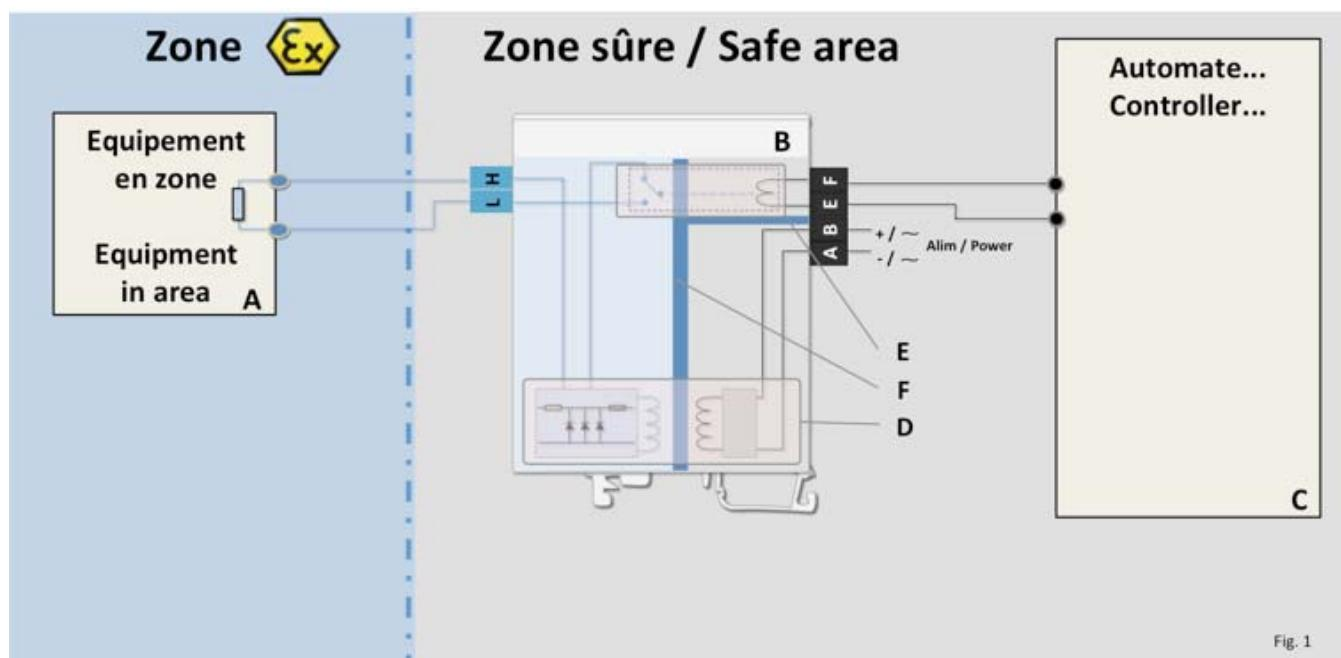

Fig. 1
Figure 1 presents a galvanic insulation barrier (B) that feeds any type of equipment. This barrier is controlled by the micro-controller (C).
In figure 1 the galvanic insulation of the barrier (F) is represented in blue.
This component is not represented on figure 1. It is used to transfer information from the intrinsic safety circuit to the conventional part of the circuit while conserving the integrity of the galvanic insulation.